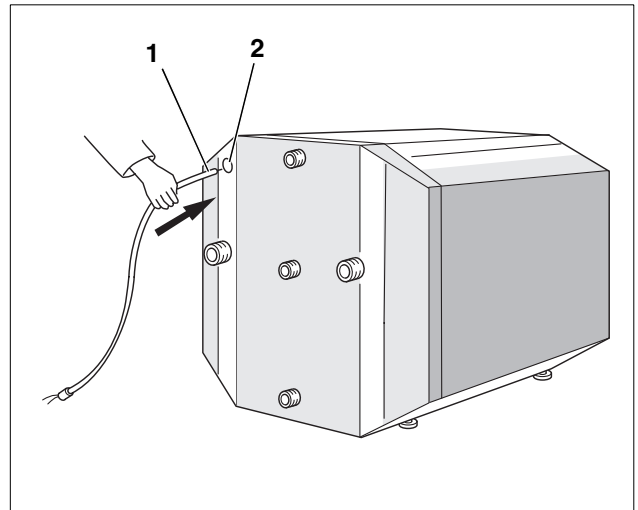

Fig. 11 Installation of temperature sensor
- Guide the sensor wiring (Fig. 11, **Item. 1**) into the raceway from the rear of the tank (Fig. 11, **Item. 2**). Make sure to lengthen the wiring for the LT300/2 model by splicing in 18 gauge wire.